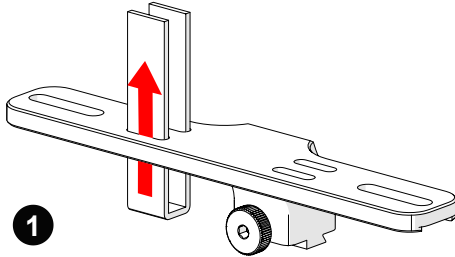

Fig. 83 - Insert velcro straps
1. Slide the velcro strap through the bracket's holes (Fig. 83).